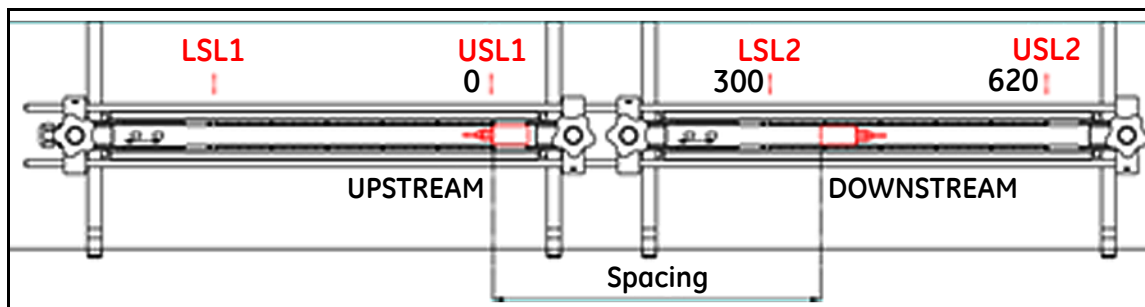
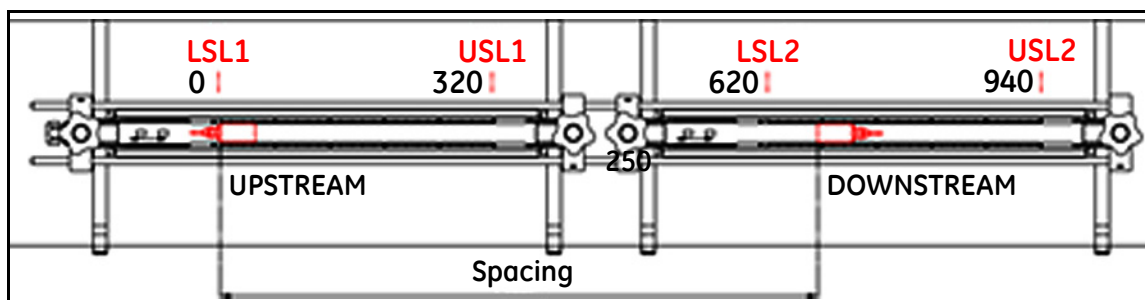

Figure 17: Transducer Spacing of 320 to 620 mm with 2 Fixtures
Figure 18: Transducer Spacing of 620 to 940 mm with 2 Fixtures
5. See Figure 17 and Figure 18 below for examples of a completed installation in the following situations: